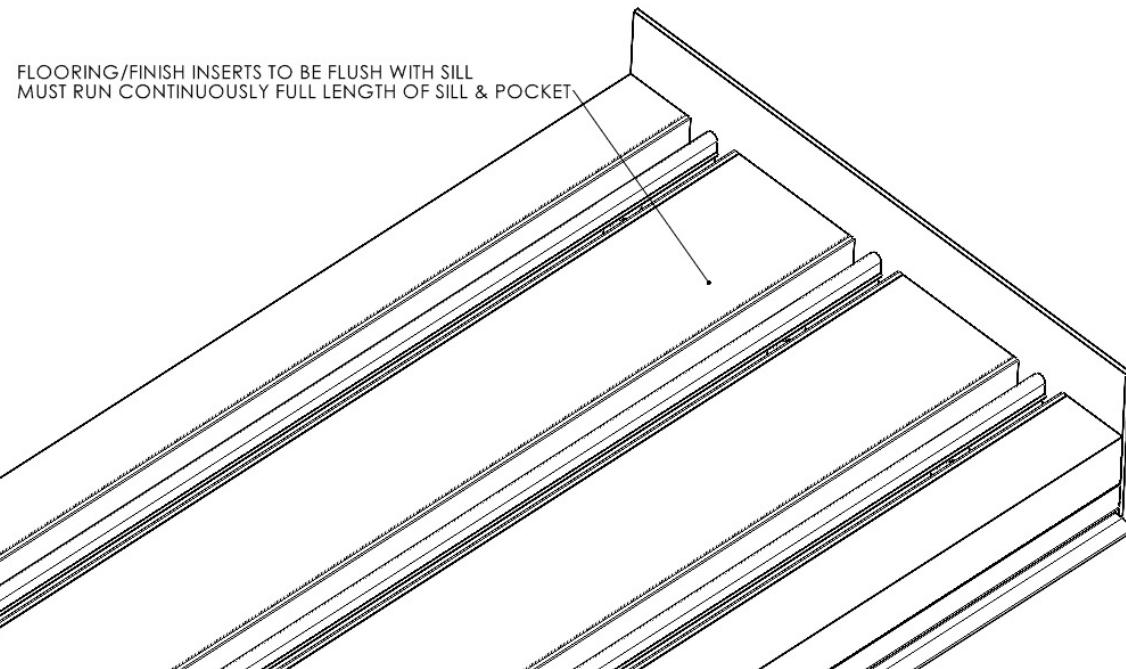

Figure 8
- No water management (sill with no weeps or drain fitting) (See Figure 8)
9. **Sill with No Weeps** – Sills with no weeps or drain fitting (no water management) shall have flooring fillers flush with the top of the sill and run the length of sill and full length of pocket. (See Figure 8).